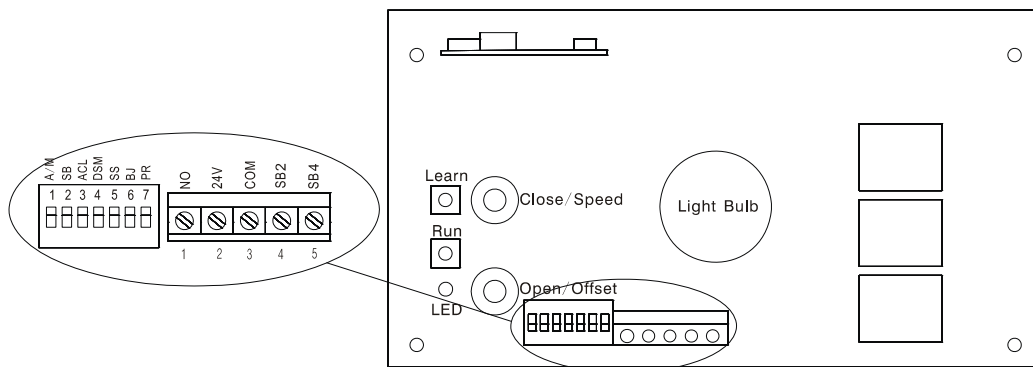

Fig. 16
- Select Dip Switch Nos.2 (SB) & 3 (AC) to the “ON” position. (Fig.16)
- Select Dip Switch No.6 (BJ) to the “ON” position. (Fig.16)
- The Dip Switches located on the Control Board (Fig.16) enable or disable specific functionality.
- Select the Dip Switches as required to enable the desired functionality (Fig.16)
- Select Dip 4 (DBM) to the “ON” position. (Fig.16)